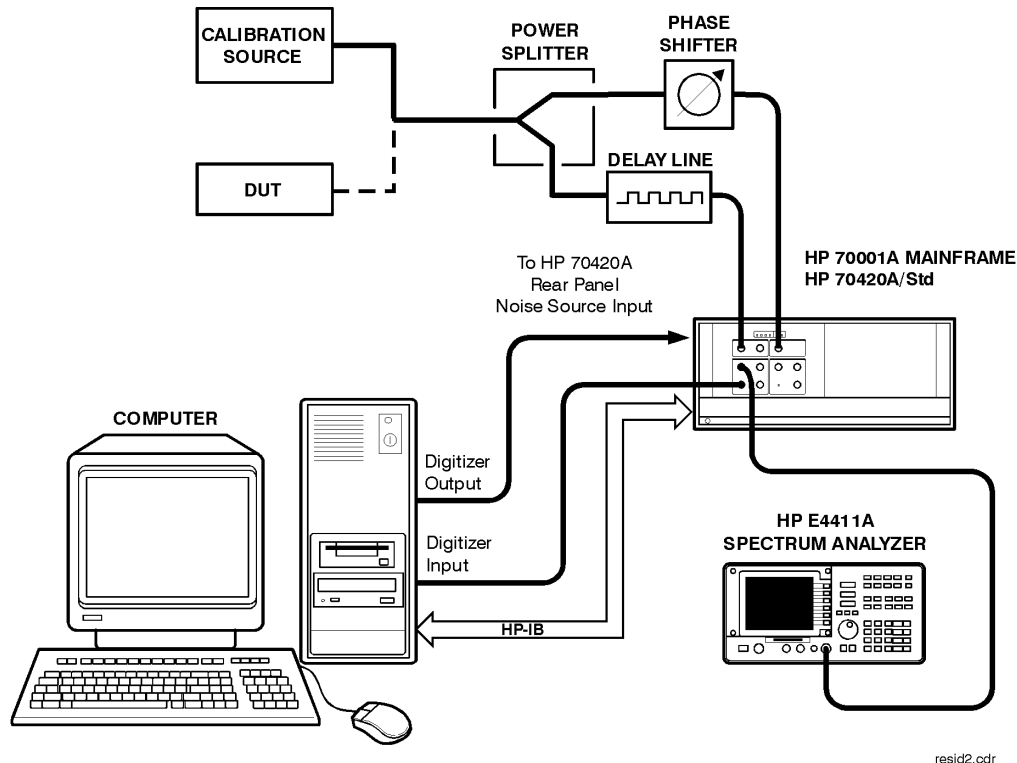

Figure 11-28 System Connect Diagram Example
- 5 Refer to Figure 11-28 for more information about system interconnections.